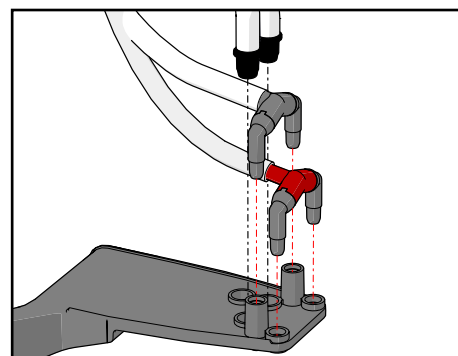

Figure 39.
5. Detach the spout from the arm (see Figure 39).